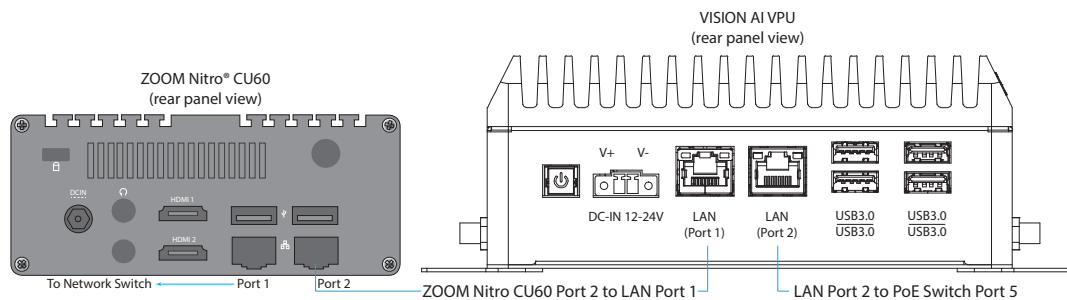

Fig. 14
- PoE switch port 5 is connected to VPU port 2 (right LAN port next to USB ports, Fig. 14).